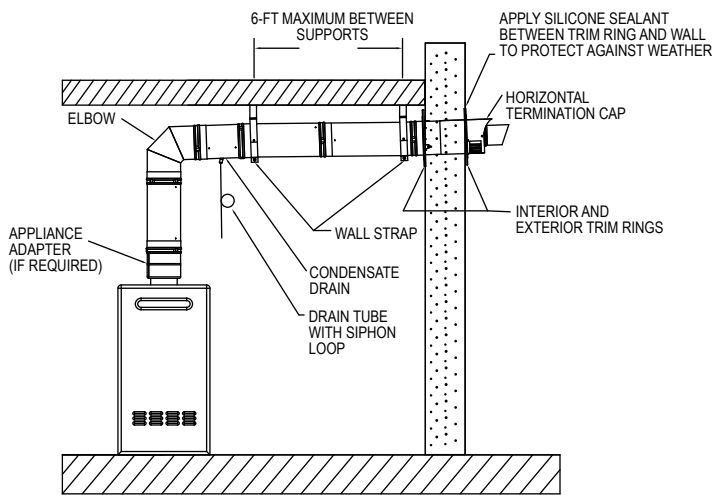

Figure 3
Identify where you want the vent to penetrate through the wall to the outside. Consider the restrictions and requirements for the location of the Horizontal Vent Cap, listed below. When determining the location of the wall penetration, be sure to account for the height of the Appliance Adapter (if needed) and the radius/height of the Elbow. For horizontal vent runs, always maintain at least a 1/4" rise per foot away from the appliance (**Fig 3**) to prevent collection of condensate or buildup of heat in the vent. Also make sure you have accommodated any minimum vent height, if any, that the appliance manufacturer may require.
4. Layout the Vent. Verify which CVS vent lengths and components you will need for your installation. Note that the Horizontal Termination Cap must fit at a specific distance outside of the exterior wall (**Figs 3 & 4**). This distance is needed to ensure proper airflow and pressure within the CVS vent system. To ensure this distance, the Horizontal Termination Cap is adjustable. Also, Telescoping Adjustable lengths are available.
6. Support Vent. Wall Straps are required every 8-ft of horizontal run in order to properly support the vent system (**Fig 3**). If the installation extends through the wall in less than 8-ft of vent pipe, a wall strap is not required. Wall Straps are designed to provide a 1" standoff from nearby walls or ceilings. Use (2) 1-1/2" wood screws to secure each Wall Strap. If a standoff further than 1" is needed, the use of plumbers tape is permissible.
Cap, and align the cap so the air inlet openings are downward (**Figs 3 & 4**).